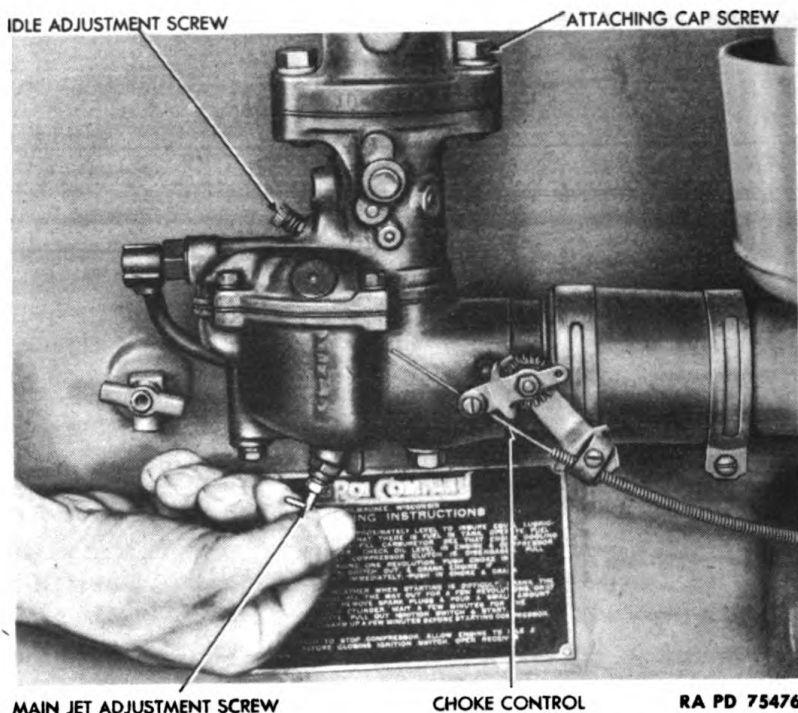

Figure 17 — Adjusting Compressor Unit Engine Carburetor
1. **Main Jet Adjustment** (fig. 17). With engine running, open throttle to about one-fourth open. Turn main jet adjustment (thumb-screw on bottom of carburetor) clockwise until engine speed decreases due to too lean a mixture. Open adjustment until engine speed decreases due to too much fuel. Set the adjustment halfway between these two extremes.
2. **Idle Adjustment** (fig. 17). With engine idling, turn idle adjustment screw (knurled head screw set an angle near top of carburetor). Clockwise motion enriches mixture; counterclockwise leans mixture. Adjust to position at which engine runs fastest for given throttle adjustment.